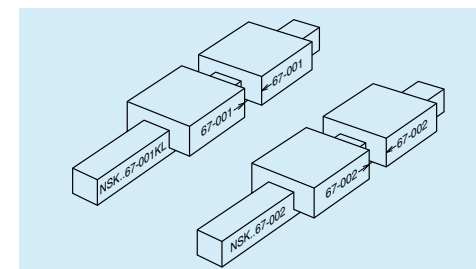

Fig. 10.29 When two rails have the same reference number
- When two or more rails are used in a single set, serial numbers are in sequence if their reference numbers are the same. The linear guide with smallest serial number has the "KL" mark (**Fig. 10.29**).